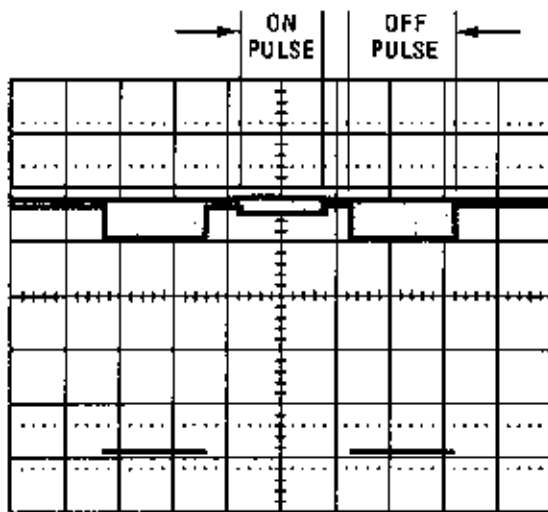

Figure 5-37. On/Off Pulse of Correctly Adjusted Circuit
7. Press **INTENS MKR** . Connect the oscilloscope probe to A7TP2. First, ensure that marker OFF pulses exist on both sides of the marker ON pulse. (Decreasing the oscilloscope **BEAM INTENSITY** will expose the marker ON pulses.) (See Figure 5-37.) While the crystal markers may function properly without them, the marker-off pulses provide a safeguard against false markers appearing on the display.